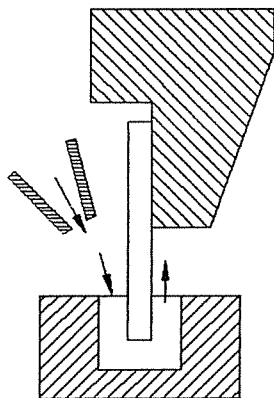

FIG. 4-17B
- A flat nozzle directs the dielectric to the side of the electrode above the lowest part of the electrode holder, thus preventing side movement of the electrode. (Fig. 4-17b)